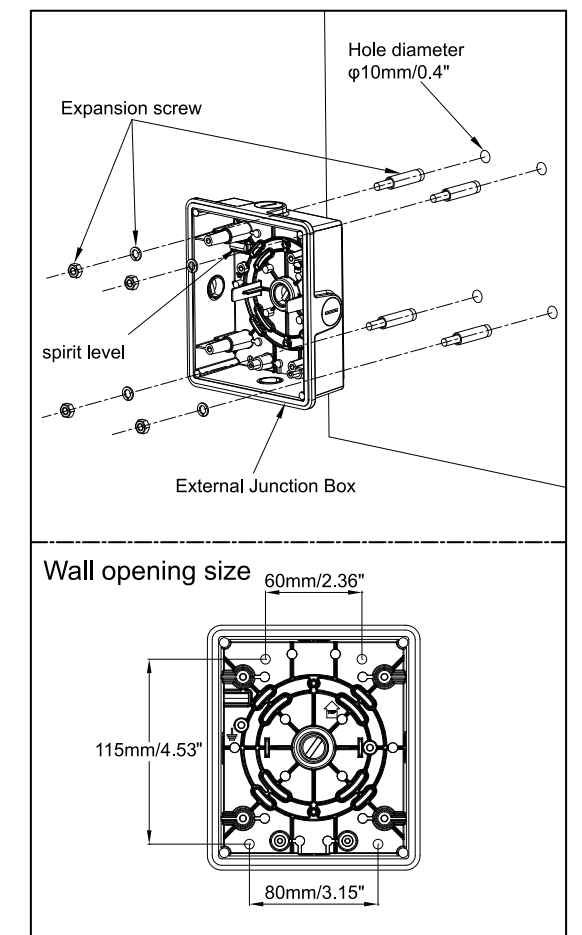

Figure 10
1. The electrician needs to make holes on the wall according to the installation holes of the external junction box. Refer to Figure 10 for the size of the holes. Fix the external junction box to the wall surface with four metal expansion screws. Use the built-in level to check the level of the external junction box installation.